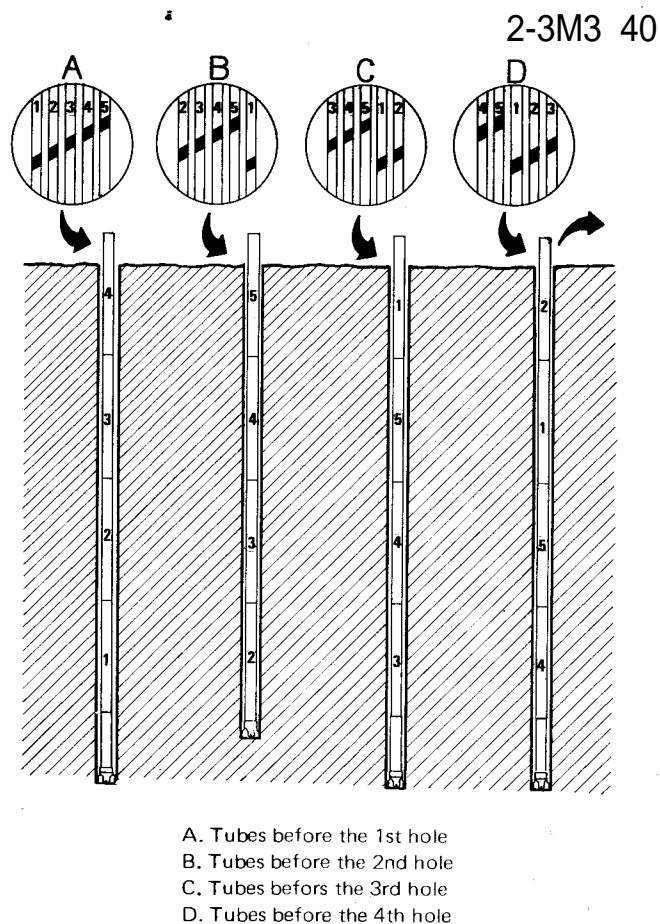

Fig. 60. Circulation of the drill tubes
14.1. Circulating the drill tubes (Fig. 60)
The principle of tube circulation is simple (Fig. 60):